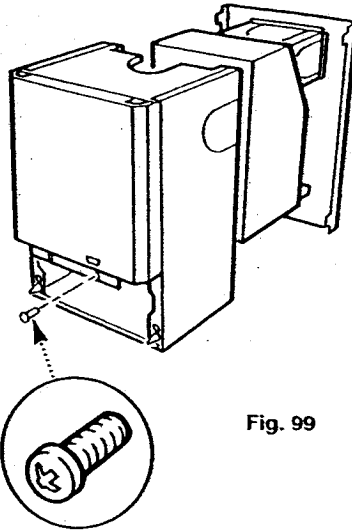

Fig. 99
4. Remove the outer case from the boiler by unscrewing the two screws and lift the case clear (Fig 99).